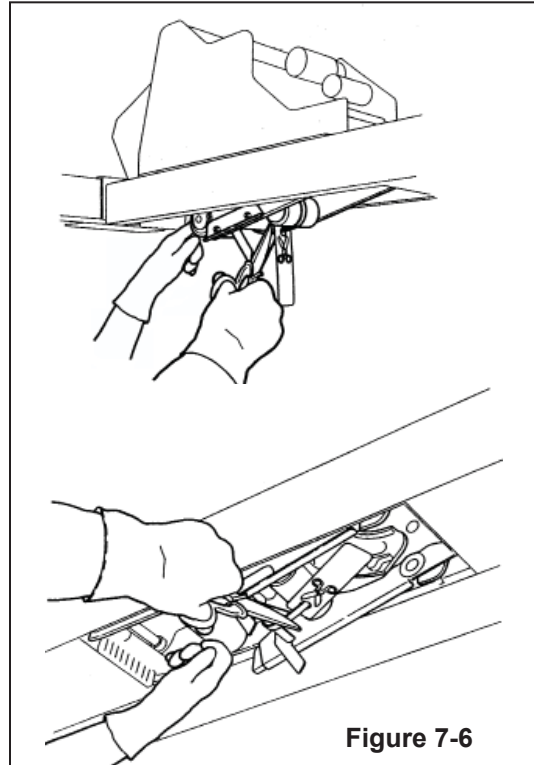

Figure 7-6
8. Cut the plastic ties holding the upper and lower taping heads in position. Hold taping head buffing roller while cutting the plastic tie. Allow buffing/applying arms to extend slowly. (**Figure 7-6**).